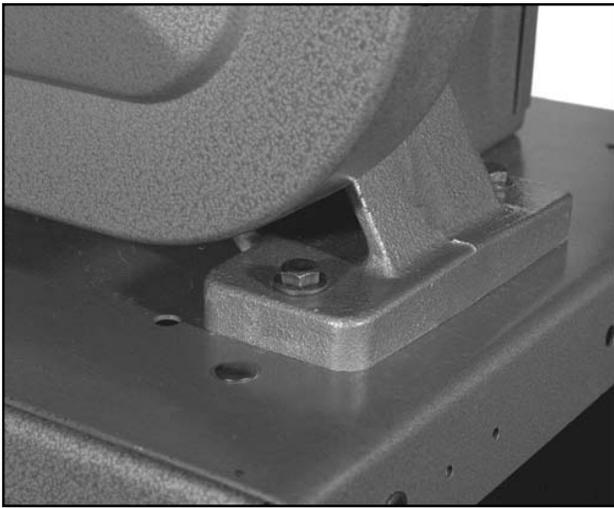

Figure 14. Loosely fasten to base.
2. Loosely secure the bandsaw base to the stand with the four (4) $\frac{5}{16}$ "-18 x $1\frac{1}{2}$ " hex bolts, nuts, and washers provided. **See Figure 14.**